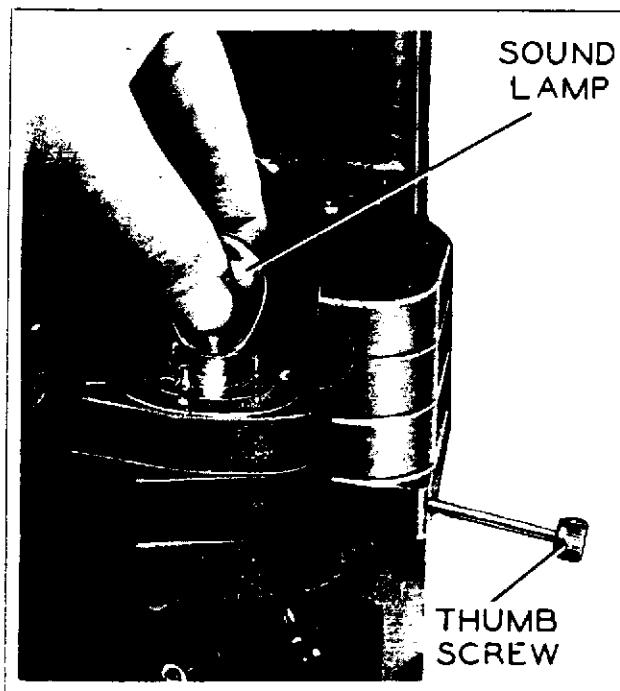

Figure 12—Replacement of Sound Lamp
c. *The sound lamp (fig. 12)*. Open the sound optical bracket. Grasp the sound lamp with the